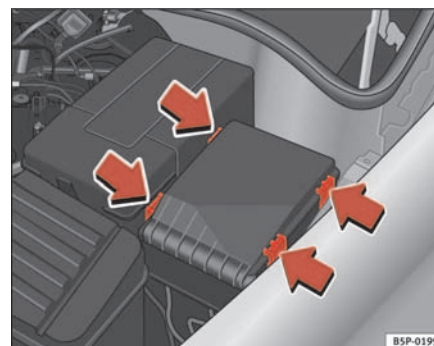

Fig. 172 Fuse box cover in engine compartment
- Prise off the fuse cover in the engine compartment by pressing the tabs towards the centre of the cover ⇒ **page 233, fig. 172.**